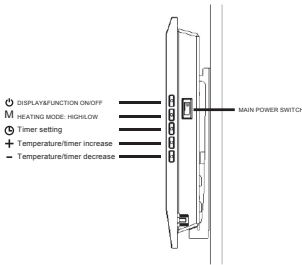

Fig.6
5. Hang the product on the 2 bolts and slide it to a stable position. See Fig 6
There are 6 function buttons on the side of the heater (see fig 6), function are as follows: